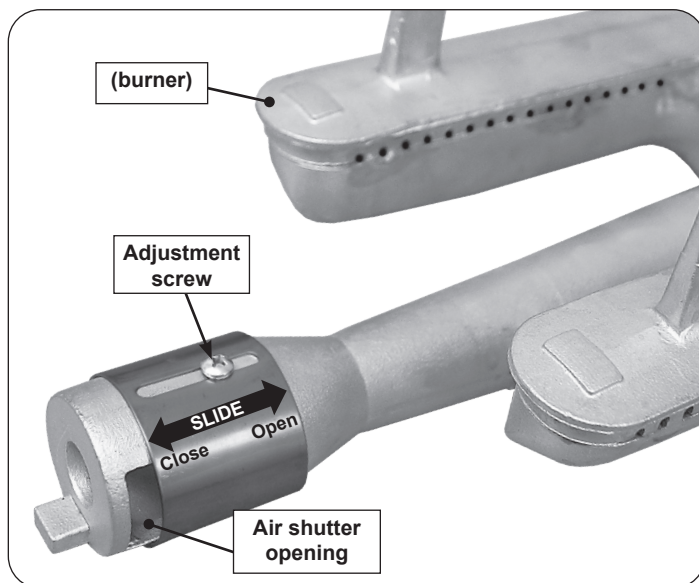

Fig. 46-2 Main burner air shutter adjustment detail
1. To adjust the air shutter, loosen the adjustment screw with a Phillips screwdriver. Then slide the shutter to open or close it. See Fig. 46-2 for details.